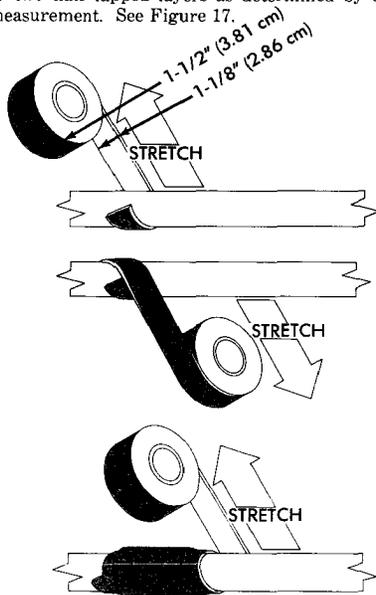

Figure 17 — Applying LOCK-Tape
8.02 Half lap 1-1/2" LOCK-Tape around cable (black side up) in area of cable coated with "C" cement. Stretch tape while applying. Use one or two half lapped layers as determined by the measurement. See Figure 17.